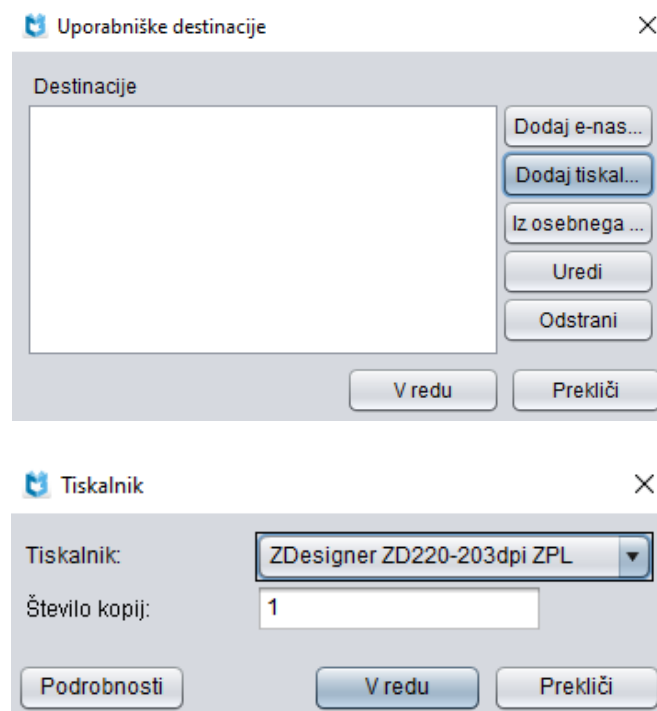

Figure 8: Logical destinations setting
- Figure 8: Logical destinations setting5
The **User destinations** window will open in which you click **Add printer**. In the new window, select the printer *ZDesigner ZD220-203dpi ZPL* from the drop-down list which you intend to use to print labels for the material (see Figure 8).